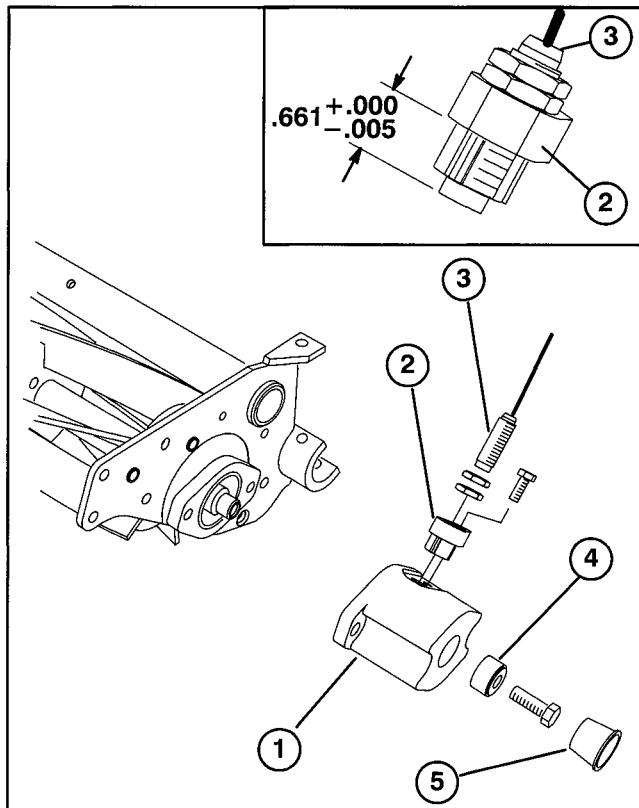

Figure 13
3. Thread reel speed sensor into sensor holder until dimension shown in figure 13, inset is attained. Lock adjustment with (2) jam nuts.
6. Install a counterweight to the left front and left rear cutting units, with nuts previously removed (Fig. 13). Mount counterweight with reel speed sensor up.
7. Through hole in end of counterweight, carefully position and mount a magnet (supplied in traction unit loose parts) to the end of the reel shaft with a 3/8 - 16 x 1" lg. capscrew (supplied in traction unit loose parts). Magnet to be installed with counterbore side toward the end of reel shaft and the smooth side outward (Fig. 13). Torque capscrew to a maximum of 5 ft-lb.